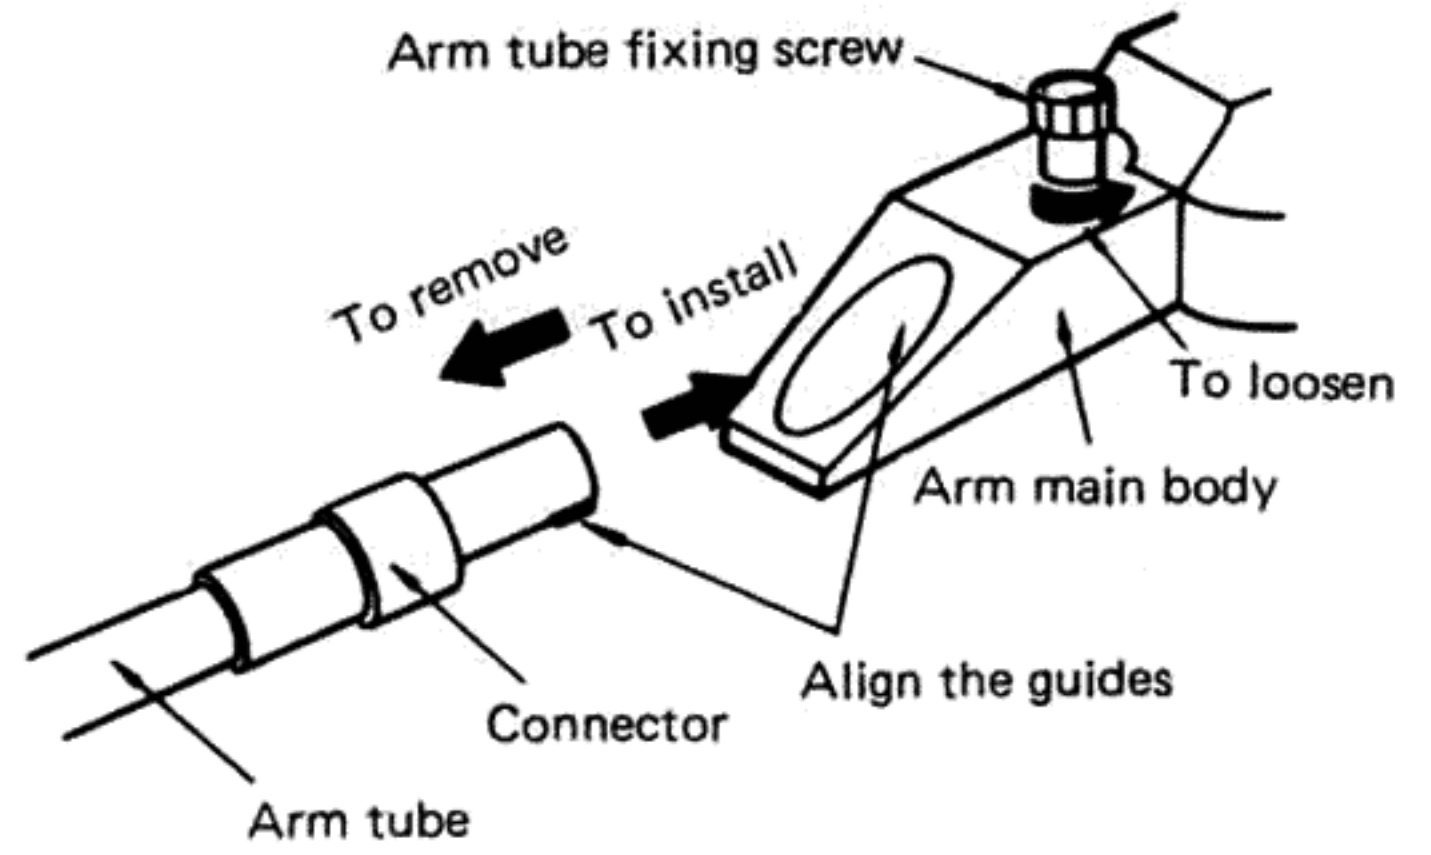

Fig. 2
- (1) When removing the arm tube, loosen the arm tube fixing screw half a rotation in the direction of the arrow, as shown in Fig. 2. Hold the connector section of the arm tube and pull it forward.
- (2) When installing the arm tube, match the connector section guide of the arm tube to the guide groove of the arm main unit and insert. Tighten the arm tube fixing screw in the reverse direction of the arrow to secure the arm tube to the arm main unit.